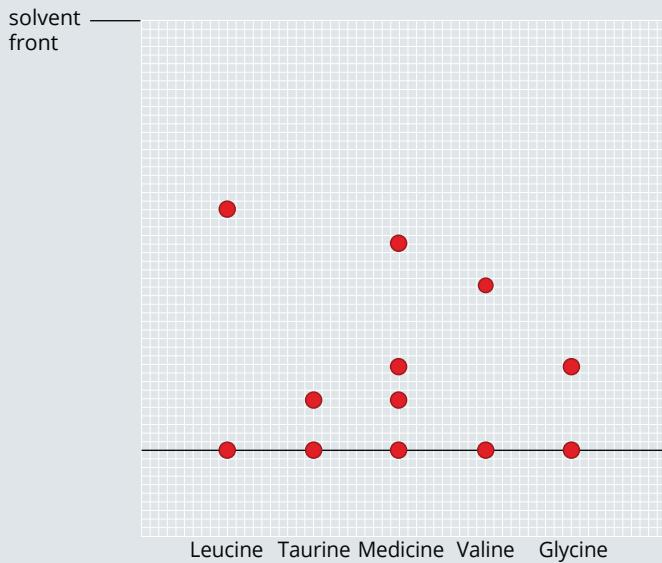

FIGURE 13.3.4 Chromatogram of amino acids.
- 3** Figure 13.3.4 shows a thin-layer chromatogram obtained for individual amino acids and a medicine.